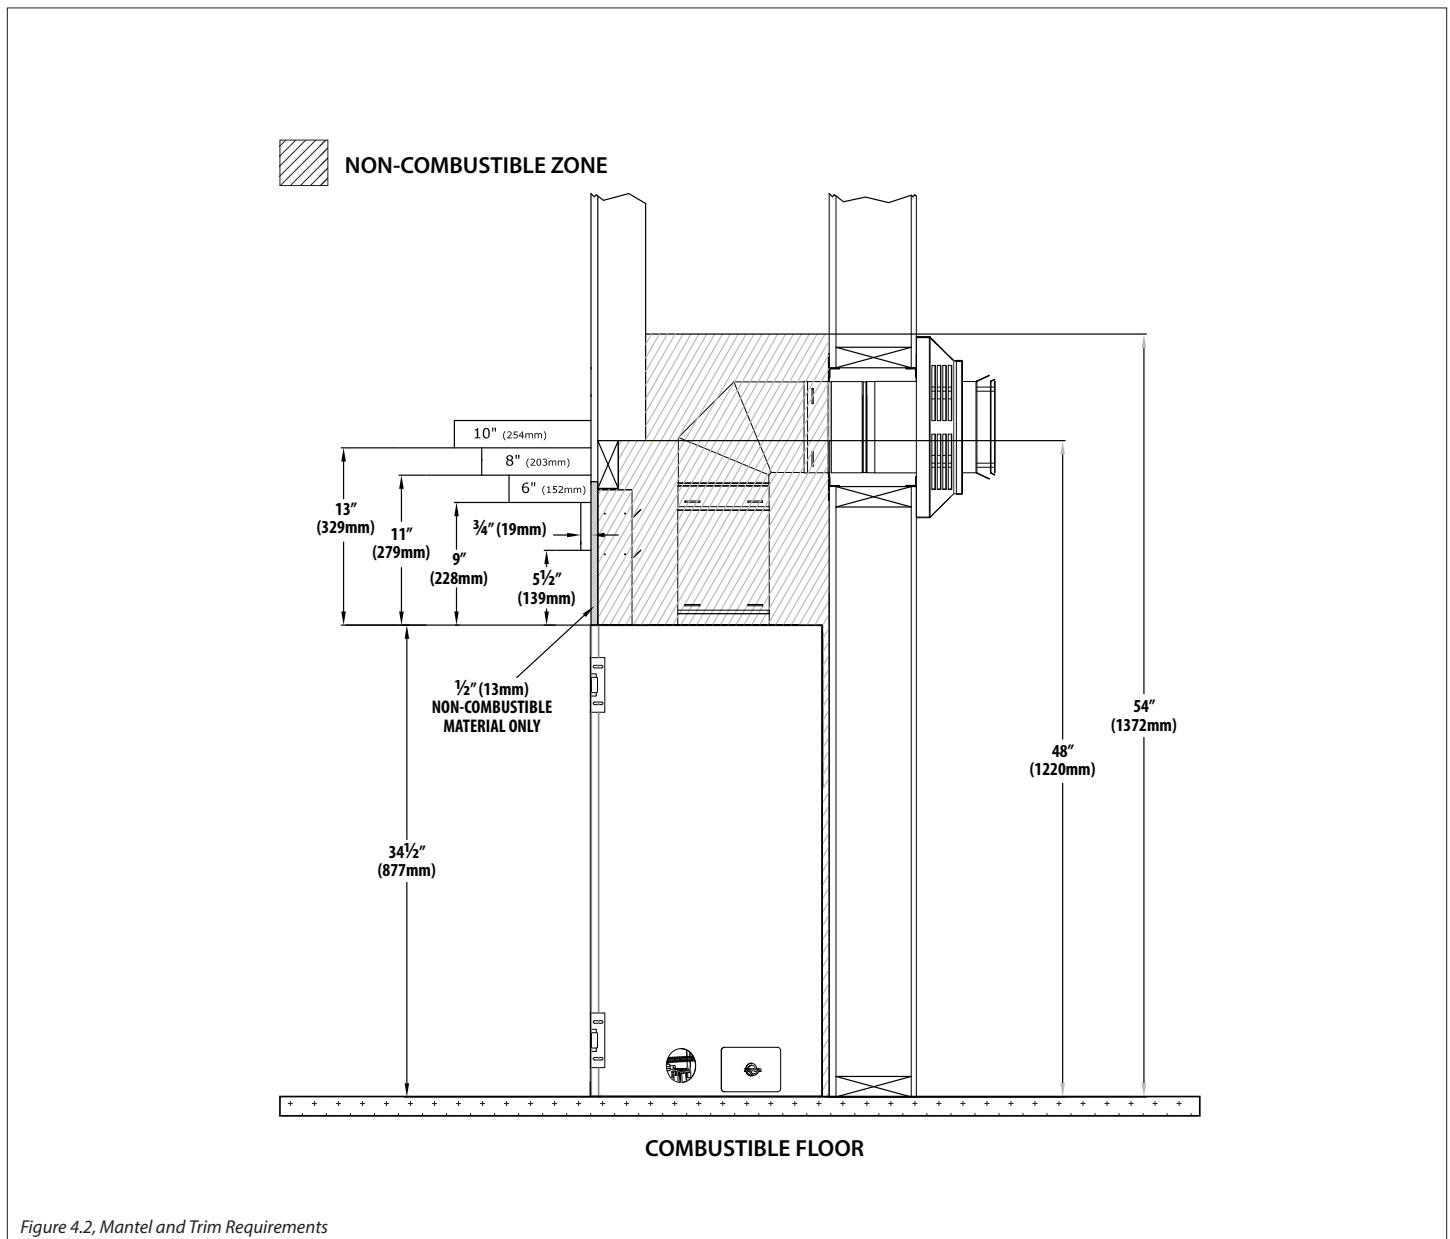

Figure 4.2, Mantel and Trim Requirements
**Combustible Mantel Projections:** As referenced in Figure 4.2, the 3/4" (19mm) trim can start at 5-1/2" (139mm) above the top of the appliance with a 6" (152mm) mantel starting at 9" above the top of the appliance. Mantel projections can increase 1" (25mm) of depth for every 1" (25mm) of height starting at the 6" (152mm) mantel.